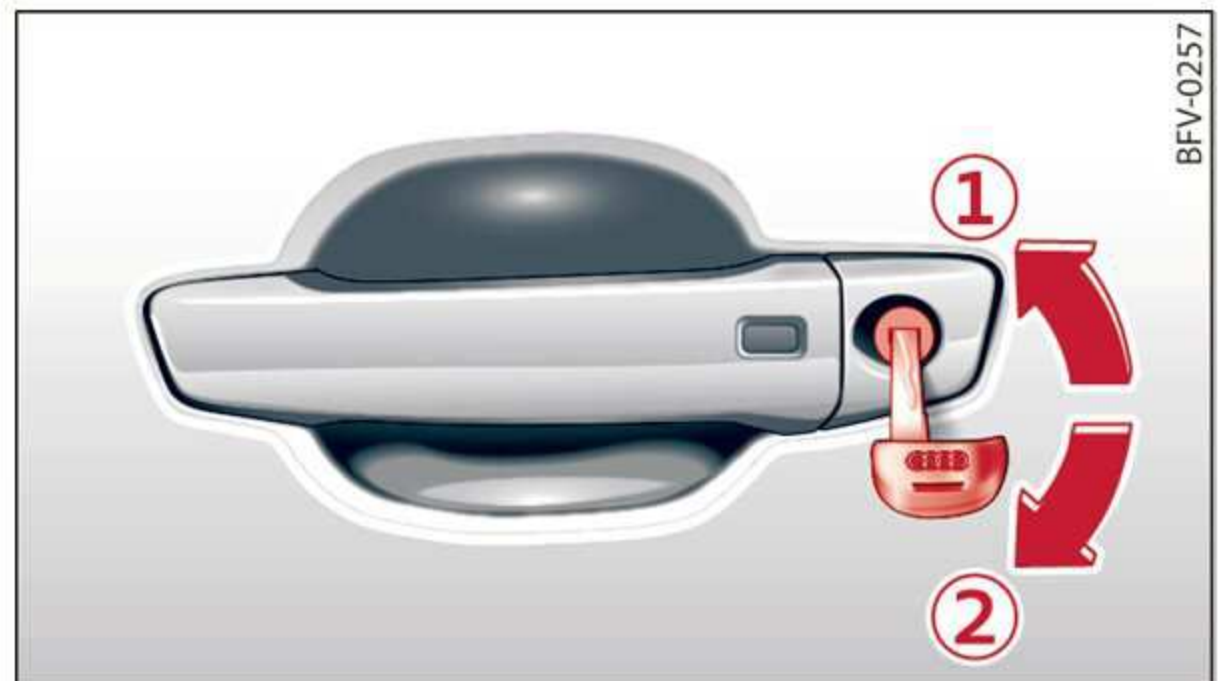

Fig. 18 Driver's door: door lock cylinder
- ▶ To unlock the driver's door, turn the key to the unlock position in the direction of arrow ① ⇒ *fig. 18*.
- ▶ To lock the driver's door, move the selector lever to the P position (automatic transmission) and turn the key **one time** to the lock position in the direction of arrow ②.